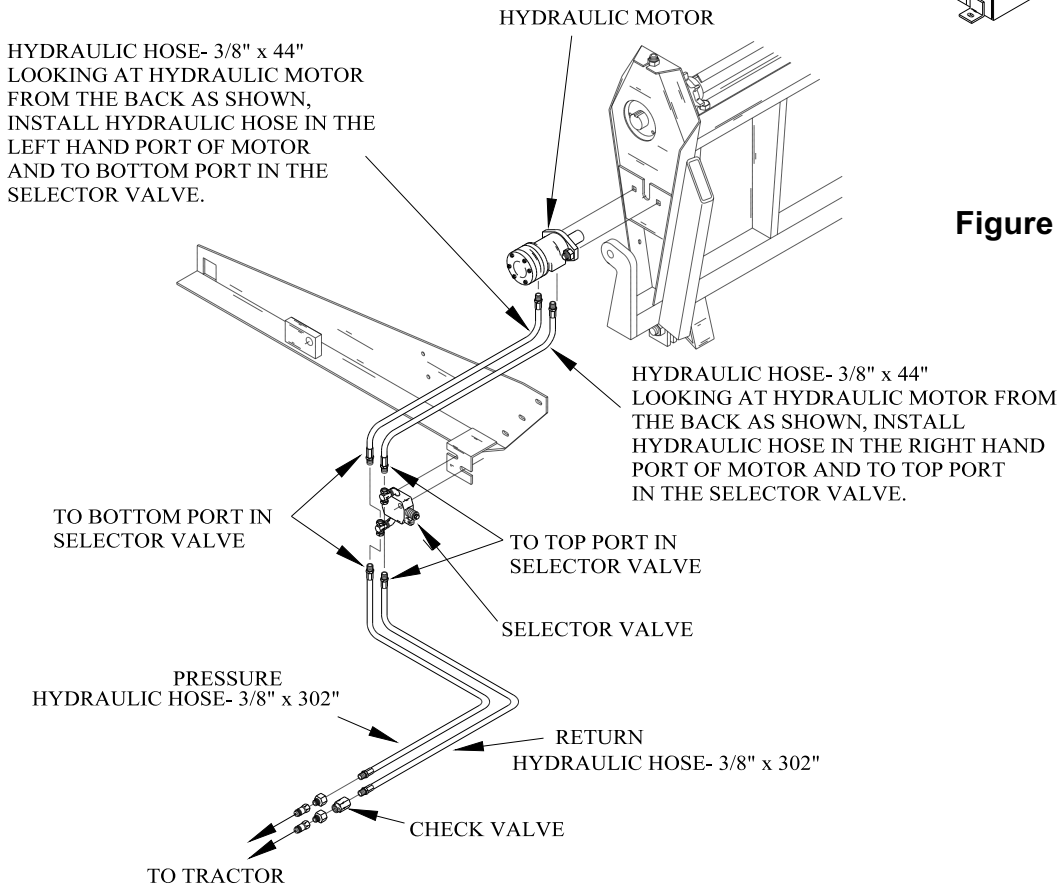

Figure 19
- 13.1 Refer to Figure 19. Install the hydraulic motor hoses as shown. Please pay close attention to which port the hoses are called out for.